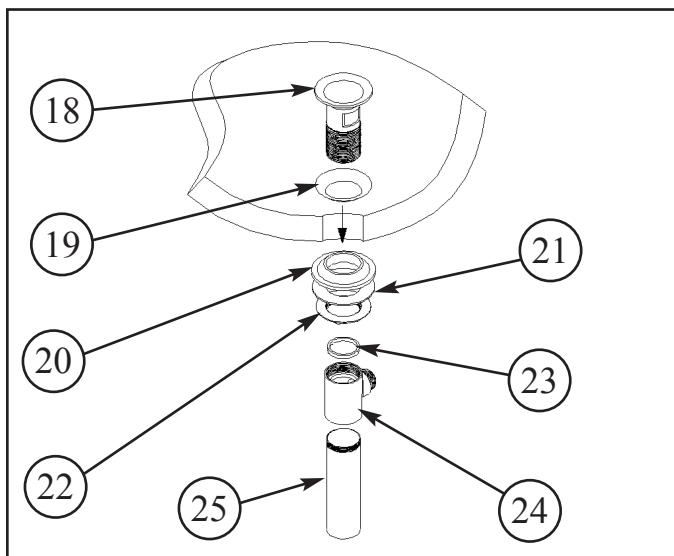

Figure 5
7. Remove drain PLUG (17) from FLANGE (18). Place FLANGE (18) and white WASHER (19) through sink drain opening. (Clear silicone may be used in place of white washer.) From bottom side of sink, place cone shaped rubber WASHER (20) onto FLANGE (18) and slide up against sink bottom. Note: Cone portion of WASHER (20) to face upward. Next slide on clear flat WASHER (21) and secure with flange NUT (22). Place clear WASHER (23) into drain BODY (24) & tighten to FLANGE (18). Apply thread sealant to TAILPIECE (25) and attach to drain BODY (24). Attach TAILPIECE (25) to p-trap drain (not included). See Figure 5.